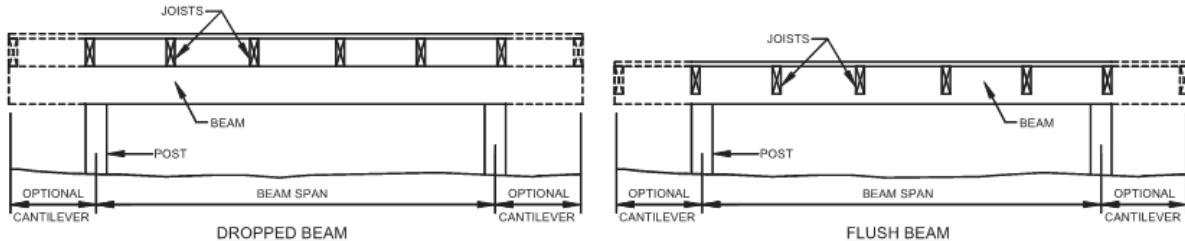

Figure 4: Spans for Wood Beams
1. Beams, being vital structural components of decks, are regulated by the IBC. IBC codes regulating deck beam span lengths are dependent on material selection. To ensure compliance with IBC codes, beam span lengths (as shown in Figure 4) are to conform with the lengths detailed in Table 1 for various beam materials and dimensions. In that beam span length is partly dependent on material selection, Table 1 also details acceptable lumber species and lumber sizes for beams used to construct exterior decks.